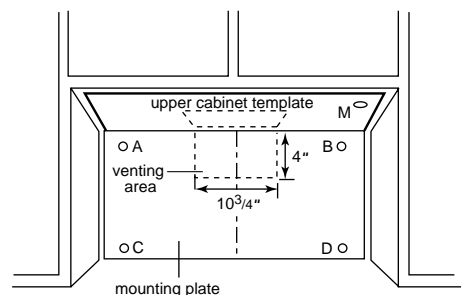

Figure 19
4. Using the mounting plate, mark the position for attaching it on the wall with pencil. If you want wall vented installation, mark the position of ventilation rectangular hole (103/4"X4") on the wall too. See Figure 19.
5. Measure the bottom of the upper cabinet frame. Trim the edges power supply cord hole on the upper cabinet template so that the template will fit on the bottom of the upper cabinet. If upper cabinet has a recessed frame, trim the template so it fits inside the recessed area. Align the centerline of the upper cabinet template with the centerline of the wall template, then securely tape or tack the upper cabinet template in place. See Figure 19.
- **WALL-VENTED:** cut out the marked area on the wall. See Figure 19.